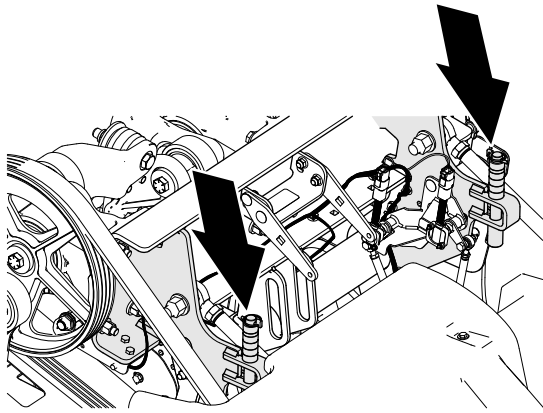
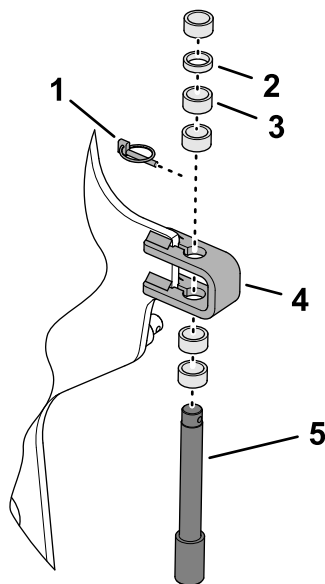

Figure 120
Figure 121
- Remove the lynch pin that secures the depth-stop pin and spacers to the stop bracket (Figure 120 and Figure 121).